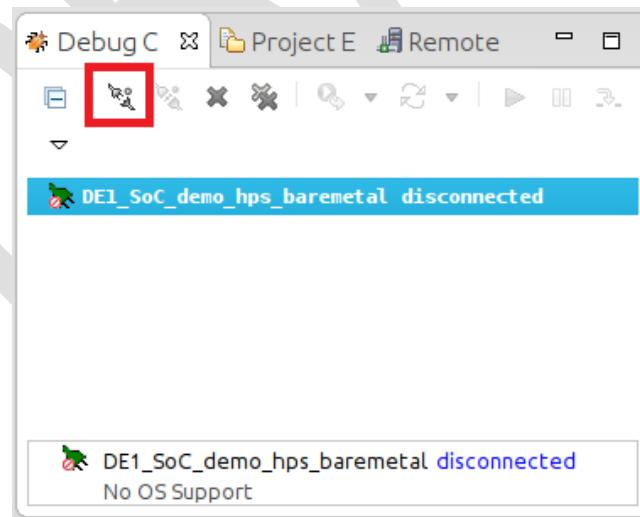

Figure 8-38. Debug Control View
21. In the “Debug Control” view, click on the “DE1_SoC_demo_hps_baremetal” entry, then click on the “Connect to Target” button, as shown on Figure 8-38. Our debug script will load and execute the preloader, then it will load and wait at our application’s “main()” function.